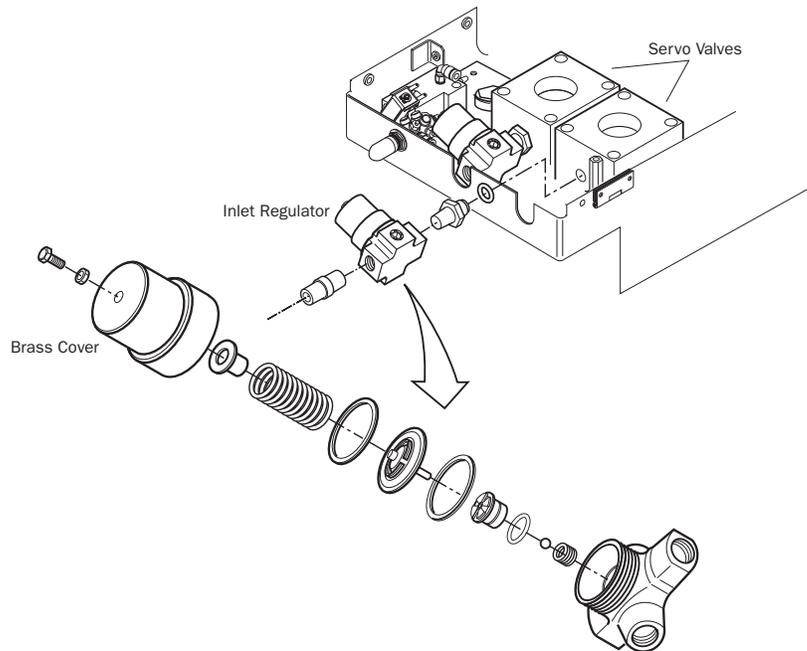

Figure 2-8
- 2 Loosen and remove the four (4) screws securing each of the two servo valves to the Pneumatic Box assembly.
- 4 Unscrew the brass cover from the regulator (no tool should be needed) and remove the spring, diaphragm, diaphragm washer, seat with O-ring, small spring, and ball (see Figure 2-8).